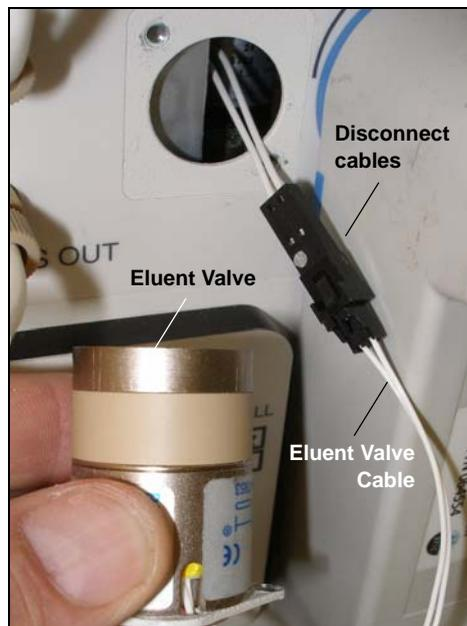

Figure 5-19. Eluent Valve Cable
7. The cable is connected to a matching cable inside the Dionex ICS-1100. Continue pulling until the connectors for the two cables are outside the panel (see Figure 5-19). Disconnect the cables.